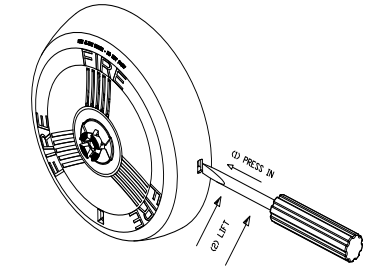

Figure 8: Removing a Horn Strobe Cover
- To remove the appliance, insert a small flat-bladed screwdriver into the side opening 1/2" as shown in Figure 8. Then pry off the beauty cover with the screw driver and remove mounting screws.